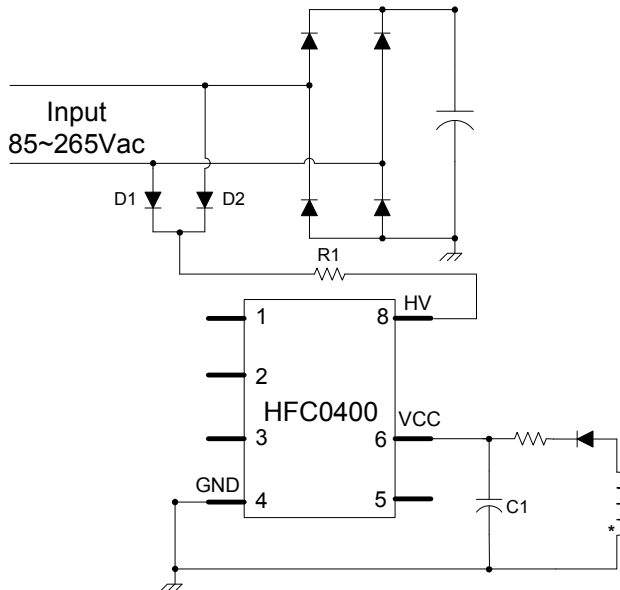

Figure 11: Start-Up Circuit
Figure 11 shows the start-up circuit. The values of R1 and C1 determine the system start-up delay time: a larger R1 or C1 increases the start-up delay. The V_{CC} duration (from V_{CC,OFF} to V_{CC,SS}) for brown-out detection should exceed half the input period, equation (4) provides an estimated value for the V_{CC} capacitor, where I_{CC(noswitch)} is the internal consumption (close to I_{CC(latch)}), and τ_{input} is period of the AC input. For most applications, choose a V_{CC} capacitor value that exceeds 10μF.